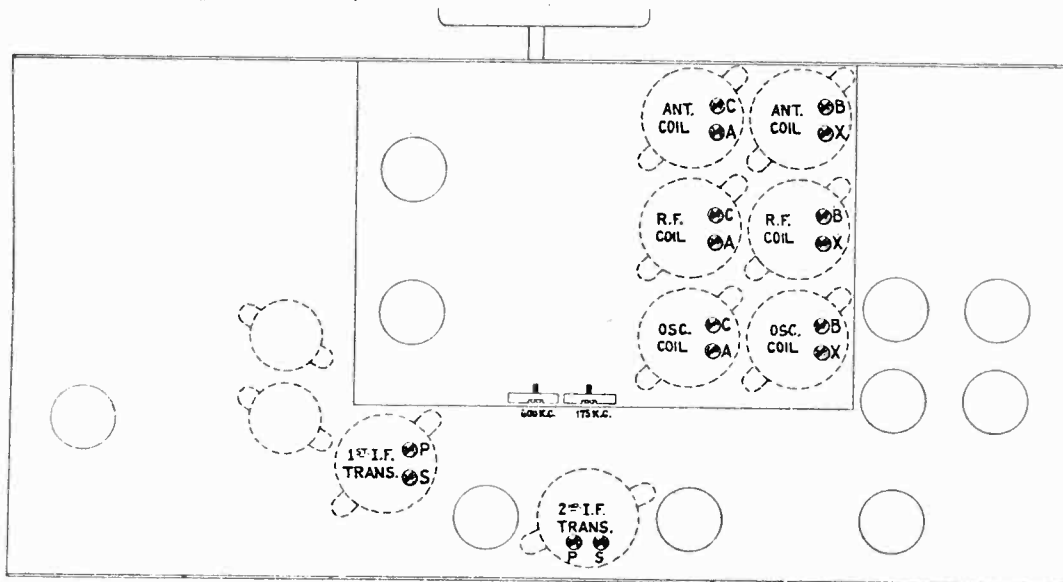

Figure 7—Location of Trimmer Capacitors
- (1) Shift the external oscillator to 175 KC. Tune in the 175 KC signal irrespective of scale calibration and adjust the series trimmer marked 175 KC on Figure 7, for maximum output, at the same time rocking the variable tuning capacitor. Then readjust at 410 KC as described in (a).
(c) Shift the external oscillator to 600 KC. Tune in the 600 KC signal irrespective of scale calibration and adjust the series trimmer, marked 600 KC on Figure 7, for maximum output, at the same time rocking the variable tuning capacitor. Then readjust at 1720 KC as described in (a).